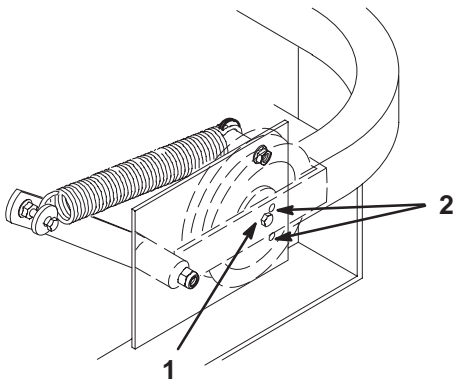

Figure 56
6. Check belt tension. The center bolt of spring loaded idler must be between the two alignment holes in left support plate (Fig. 56).
Check position of center bolt in a High Height of Cut. The center bolt must be at or above the lower alignment hole (Fig. 56).
8. Check belt tension again. The center bolt of spring loaded idler must be between the two alignment holes in left support plate (Fig. 56). Adjust, if necessary, and tighten all hardware securely.